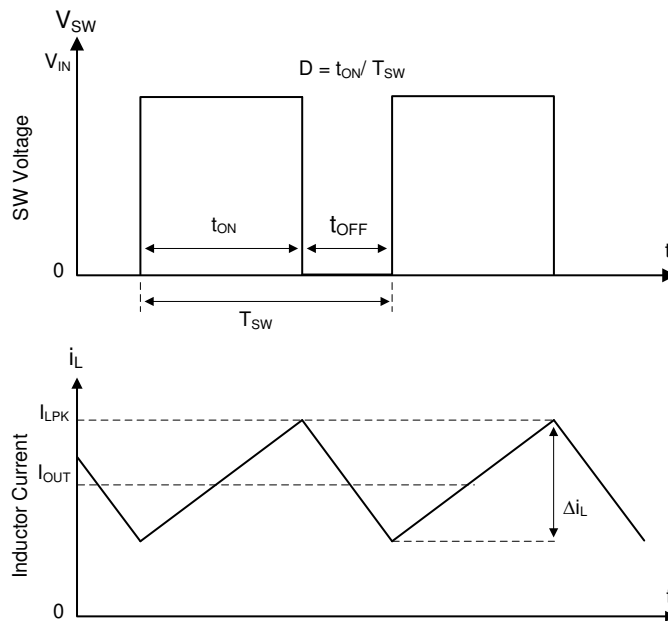

Figure 6-1. SW Node and Inductor Current Waveforms in Continuous Conduction Mode (CCM)
The following operation description of the TPS54538 refers to the functional block diagram and to the waveforms in Figure 6-1. The TPS54538 is a synchronous buck converter with integrated high-side (HS) and low-side (LS) MOSFETs (synchronous rectifier). The TPS54538 supplies a regulated output voltage by turning on the HS and LS NMOS switches with controlled duty cycle. During high-side switch on time, the SW pin voltage swings up to approximately V_{IN} , and the inductor current, i_L , increases with linear slope $(V_{IN} - V_{OUT}) / L$. When the HS switch is turned off by the control logic, the LS switch is turned on after an anti-shoot-through dead time. Inductor current discharges through the low-side switch with a slope of $-V_{OUT} / L$. The control parameter of a buck converter is defined as Duty Cycle $D = t_{ON} / t_{SW}$, where t_{ON} is the high-side switch on time and t_{SW} is the switching period. The converter control loop maintains a constant output voltage by adjusting the duty cycle D . In an ideal buck converter where losses are ignored, D is proportional to the output voltage and inversely proportional to the input voltage: $D = V_{OUT} / V_{IN}$.